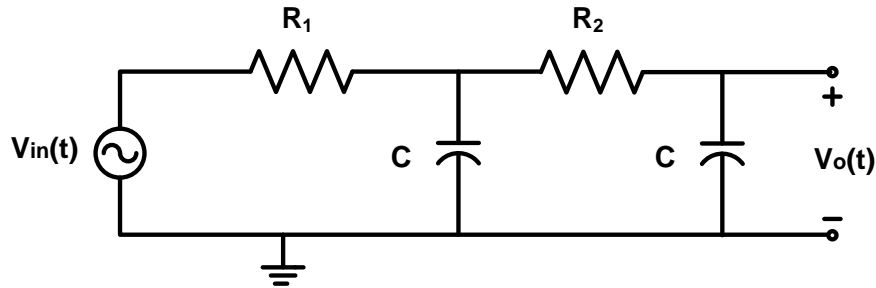

Fig. 3. Second order low pass filter
5. For the circuit shown in Fig. 3, derive the transfer function for v_o/v_{in} in terms of R_1 , and C_1 , and find the expressions for the magnitude and phase responses. You may assume $R_2 \gg 2R_1$. Express your results in the form
- Design (find component values) a passive second-order low pass filter such as the one shown in Fig. 3. Determine R_1 and R_2 for $C = 47$ nF. The first pole is at 1,700 Hz and the second pole is at 3.5 kHz. You must use PSpice to verify your design.
- Build the circuit shown in Fig. 3 with R and C you found in the pre lab. Apply a 6 Vpp sinusoid from the function generator to the input.